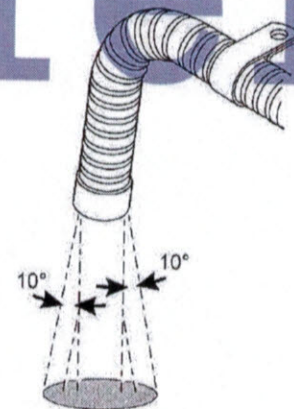

Fig. 22
4.6.6 When the heat is working, the exhaust tube is at high temperature. In installation, make sure to install it in far distance from plastic parts or other objects with poor thermal resistance of the vehicle body. The exhaust tube shall be properly fixed. The exhaust vent shall be downwards, perpendicular to road surface with an angle of $90^\circ \pm 10^\circ$. To ensure such an angle, the fixing clip for the exhaust tube shall be within 150mm from the tube end. (Fig. 22)